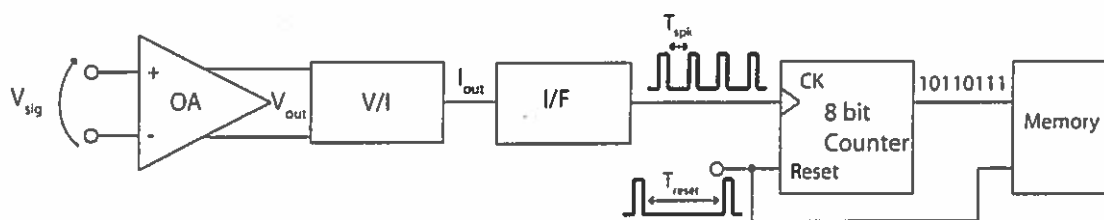

Figure 6.1
6. Figure 6.1 shows a voltage measurement system which uses an operational amplifier (OA) and a novel integrating analogue to digital converter to encode detected voltage signals. The detected signal are first converted to a current through a voltage to current converter (V/I) and then to a spike train through an integrate and fire neuron (I/F). The 8 bit counter is used to count the number of spikes in a fixed period T_{reset} which is then stored in memory. The whole system works off a 1 V supply.
d) Explain why this method of integration is more efficient in area when integrating over a very long period (time constant $\tau = 1 \text{ sec}$). Show how the system, shown in figure 6.1, can be modified to achieve this integration.